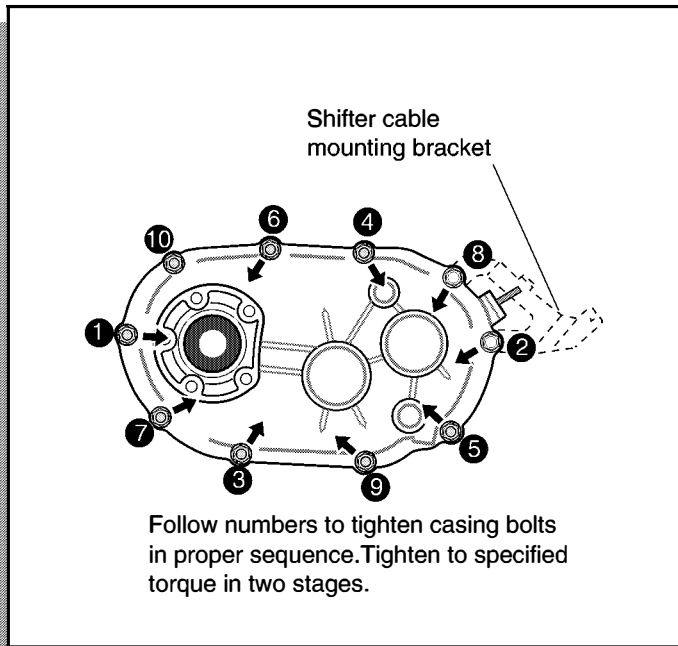

Fig. C-23 Torque Sequence
- Using a 12mm socket and 12mm wrench, tighten the transaxle casing bolts to specified torque in two stages, in the order shown (Ref Fig. C-23 on page C-10).